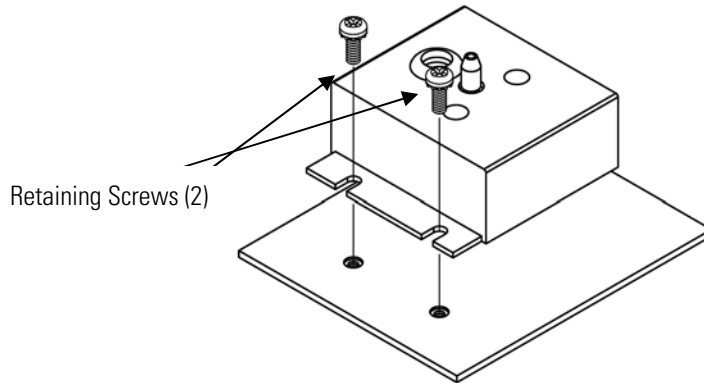

Figure 7-12. Replacing the Pressure Transducer
4. Remove the two pressure transducer assembly retaining screws and remove the pressure transducer assembly (Figure 7-12).